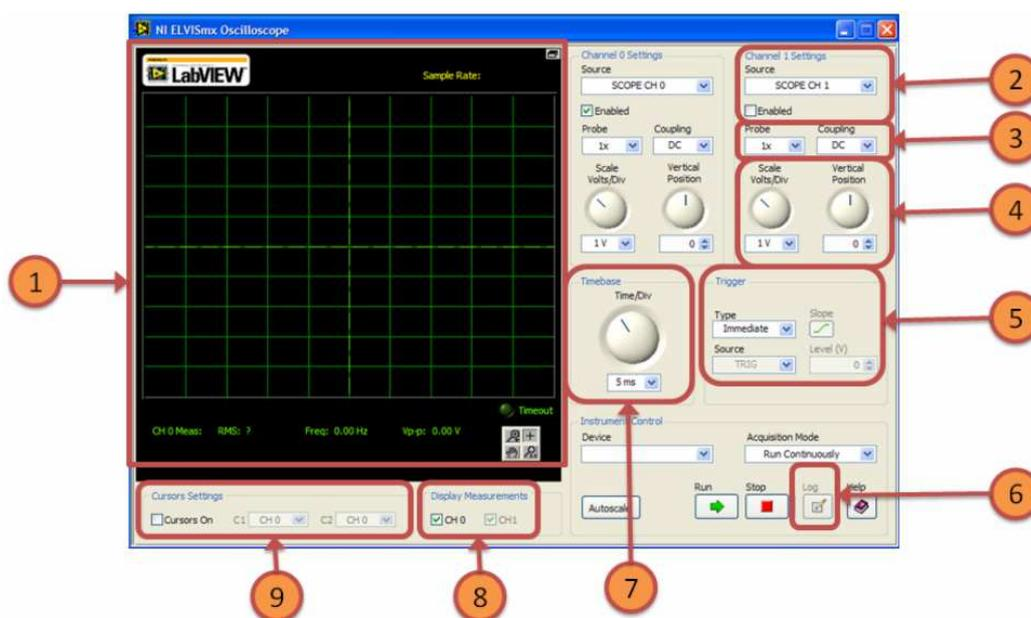

Fig. 5. SCOPE SFP with important controls labeled
The oscilloscope is a device that displays signal voltages as a two-dimensional graph of electrical potential differences (vertical axis) plotted as a function of time (horizontal axis). Though time-invariant (DC) voltages can be displayed, this device is commonly used to display time-varying voltage signals. The NI ELVISmx Oscilloscope consists of two channels, Channel 0 and Channel 1, which can automatically connect to up to ten (10) sources. Shown below is the Scope SFP in Figure 5, as well as an explanation of the important controls.
5. Trigger: This oscilloscope features triggered sweeps. A triggered sweep starts (begins data acquisition) at a selected point on a trigger signal, providing a stable display. The scope has three settings: Immediate, in which there is no external trigger signal and the data acquisition begins immediately; Digital, in which acquisition begins on the rising edge or fall edge (Slope setting) of an external digital signal; Edge, in which data acquisition begins when an internal or external signal crosses a specified threshold (Level (V) setting). For the Digital setting, the trigger signal source is the TRIG BNC input channel or the TRIGGERpin socket of signal group J2 (see feature 4 in Table 1). For the Edge setting, the choices of signal sources are the Chan 0, Chan 1 or the signal from the TRIG BNC input channel/pin socket.